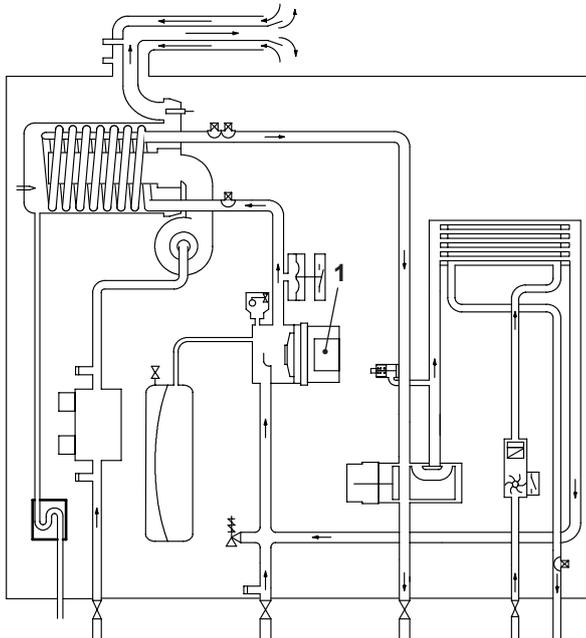
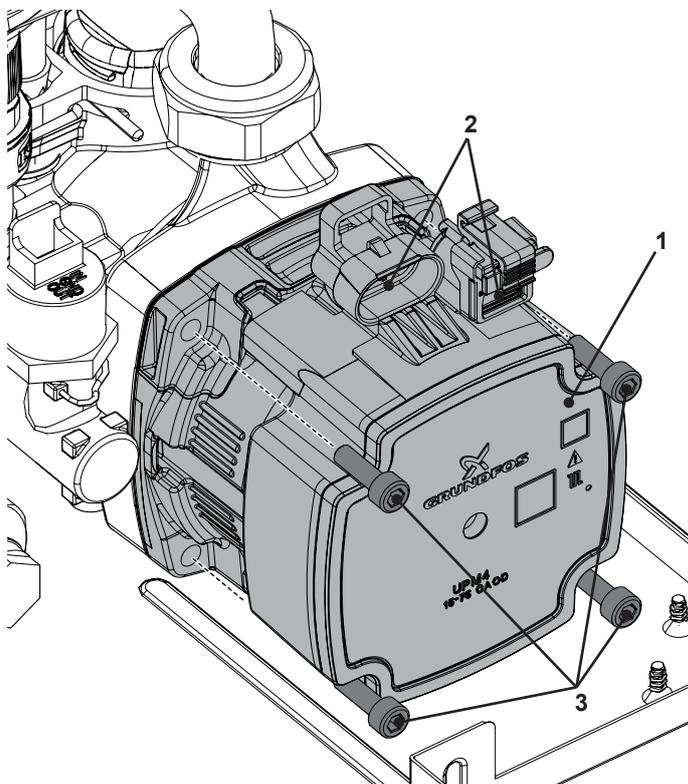

Figure 7.1
Figure 7.2
The pump "1" in Figure 7.1 and Figure 7.2 has the function of making the water in the main circuit circulate through the main condensing heat exchanger and therefore through the C.H. system (during the C.H. function) or through the secondary heat exchanger (during the D.H.W. function).
- 3 Disconnect the connectors "2" (Figure 7.2).